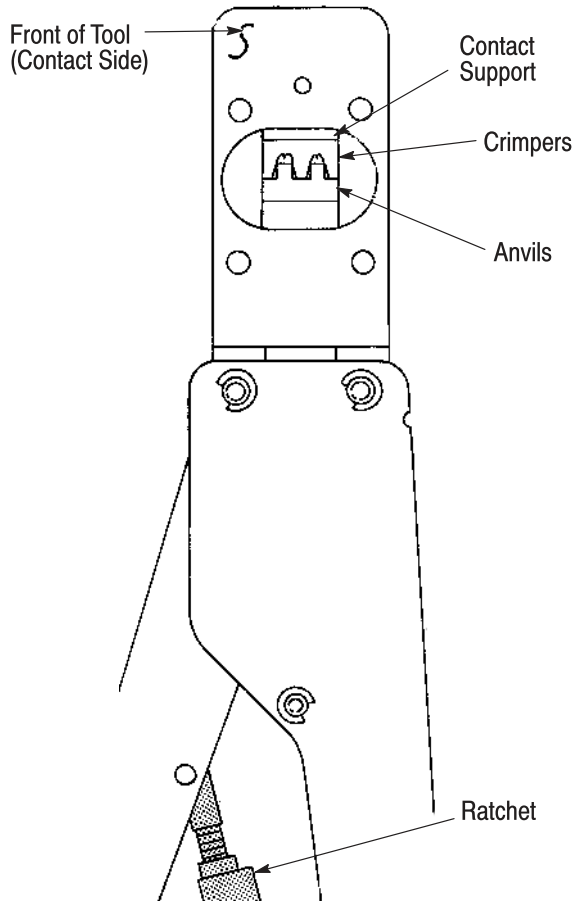

Figure 1
2. DESCRIPTION (Figures 1 and 3)